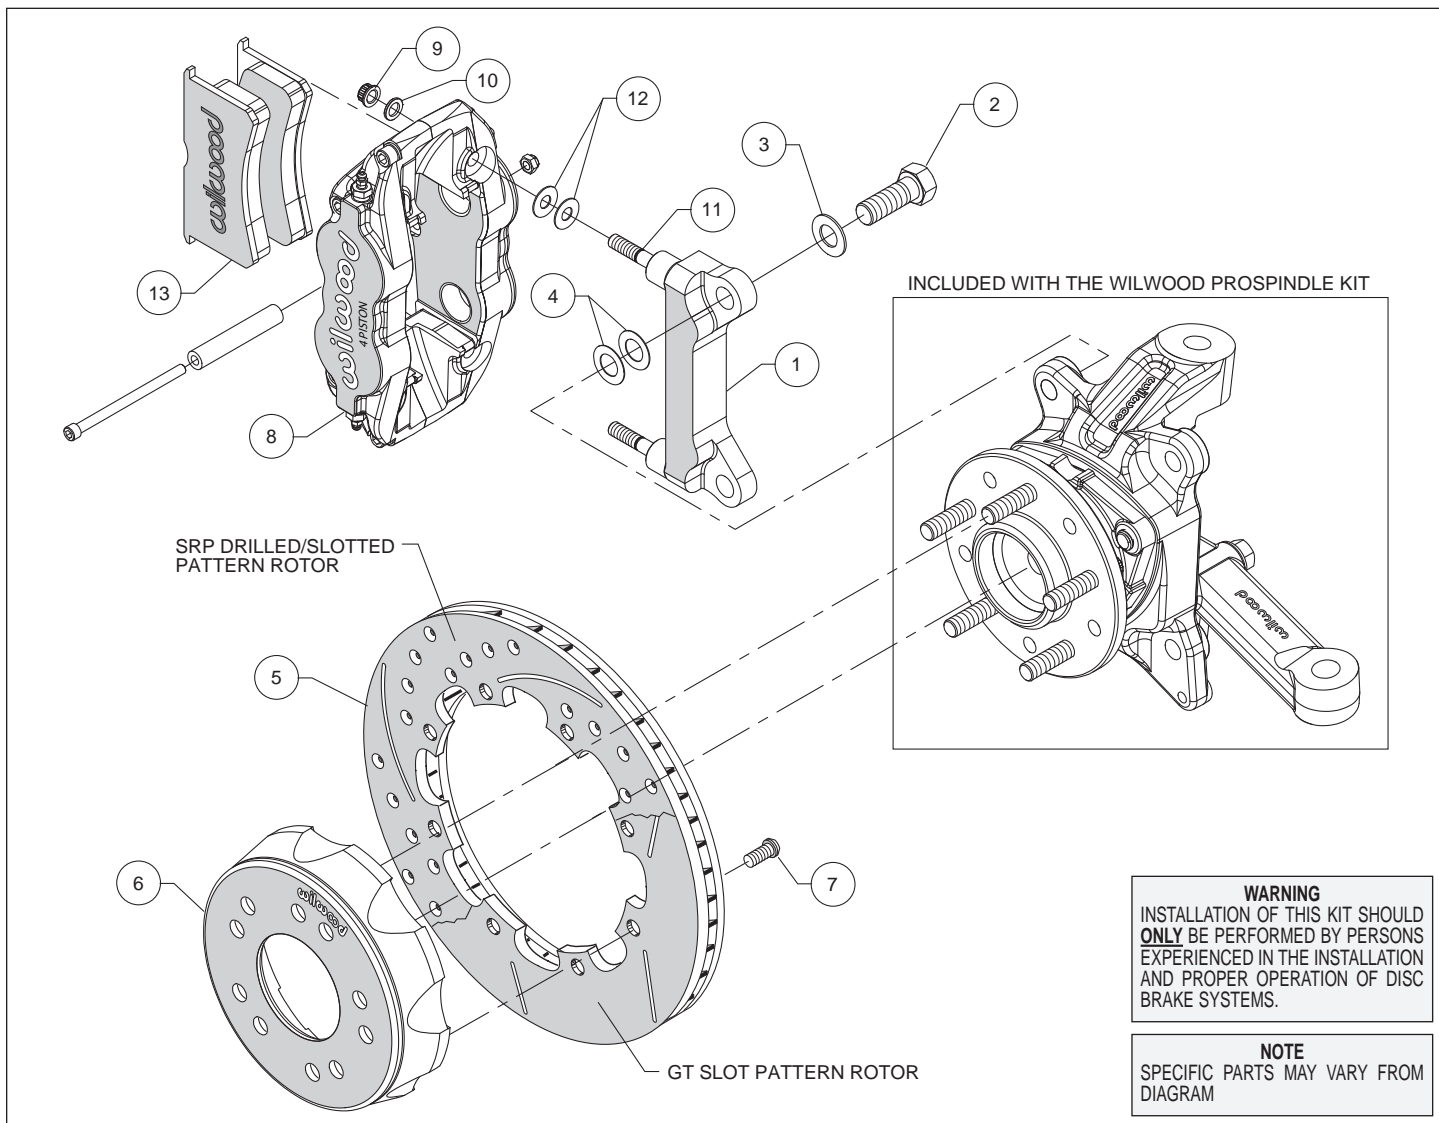

Figure 1. Typical Installation Configuration
Assembly Instructions (numbers in parenthesis refer to the parts list and Figure 1 on the preceding pages):
- The caliper mount bracket (1) should initially be installed with clean, dry threads on the mounting bolts. Orient the bracket as shown in Figure 1 and Photo 1 and install using mount bolts (2) and washers (3). Initially place two .024" thick shims (4) on each bolt between the bracket and spindle, Figure 1. Temporarily tighten the mounting bolts. **NOTE:** The bracket must fit squarely against the mounting points on the spindle. Inspect for interference from casting irregularities, machining ridges, burrs, etc. Later, after the caliper alignment has been checked, the mount bolts will be secured using red Loctite® 271.
- Orient the rotor (5) and the hat (6) as shown in Figure 1 and Photo 2. Attach rotor to hat using bolts (7). Using an alternating sequence, apply red *Loctite*[®] 271 to the threads, and torque to 25 ft-lbs.
- Lubricate the caliper mounting studs (11) with lightweight oil. Initially place two .035" thick shims (12) on each stud as shown in Figure 1 and Photo 5. Mount the caliper (8) onto the bracket (1) using lock nuts (9) and washers (10), Figure 1. Temporarily tighten the lock nuts and view the rotor through the top opening of the caliper. The rotor should be centered in the caliper, Photo 6. If not, adjust by adding or subtracting shims (4) between the bracket and the spindle. Always use the same amount of shims on each of the two mounting bolts. Once the caliper alignment is correct, remove the bracket mounting bolts one at a time, apply red *Loctite*[®] 271 to the threads, and torque to 140 ft-lb.